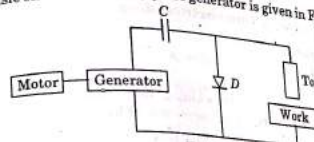

Fig. 5.11.2.
3. The basic circuit of a rotary pulse generator is given in Fig. 5.11.2.